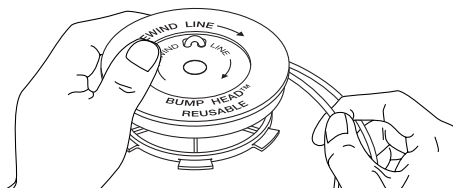

Fig. 17
7. Wind the lines in tight even layers, onto the reel (Fig. 17). Wind the line in the direction indicated on the inner